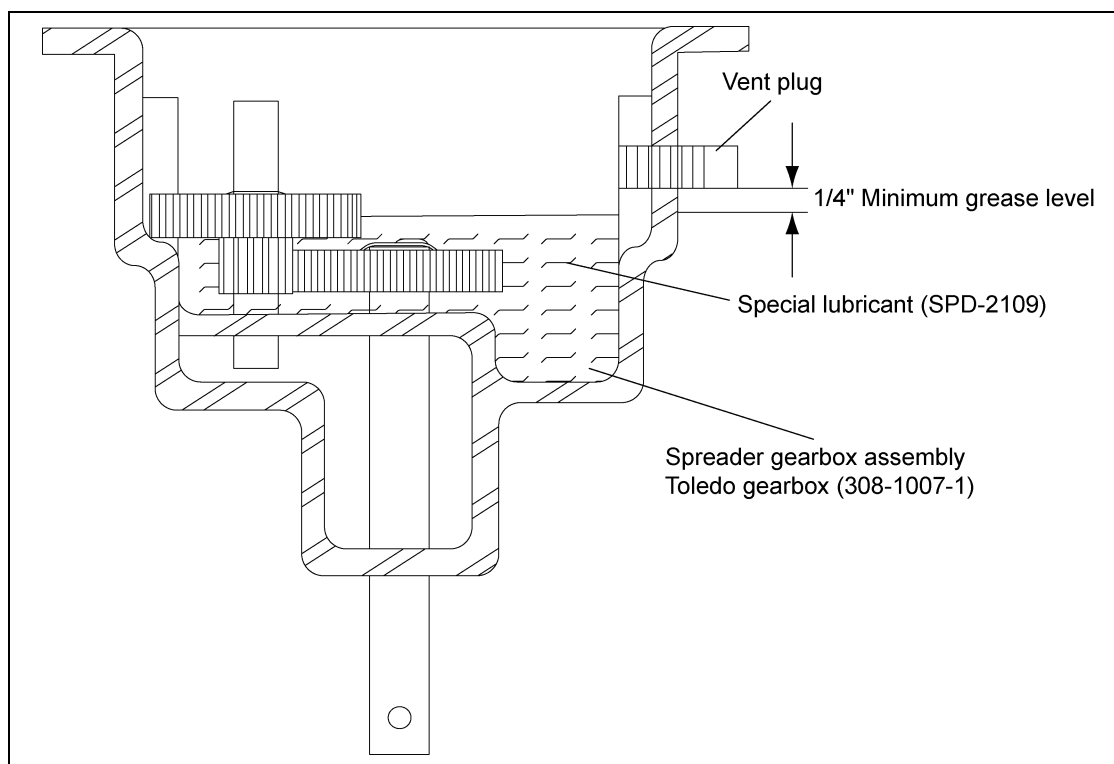

Figure 6A The gear box assembly showing grease level.
For normal operation, annually re-lubricate both motor bearings with approximately ten (10) drops of 5W-30 oil. The gears of the gearbox assembly are lubricated with a special high temperature, food grade lubricant (SPD-2109) at the time of manufacturing. The level of grease in the gearbox should be checked annually and will not normally require further lubrication unless seal breakage occurs. After the grease has settled to the bottom of the gearbox, the grease level can be checked. The grease level should not be more than 1/4" below the vent plug. (See Figure 6A.) It may be necessary to insert a wire through vent plug hole to determine the grease level. The grease level also can be checked by removing motor and viewing grease level through the hole for the motor pinion gear.